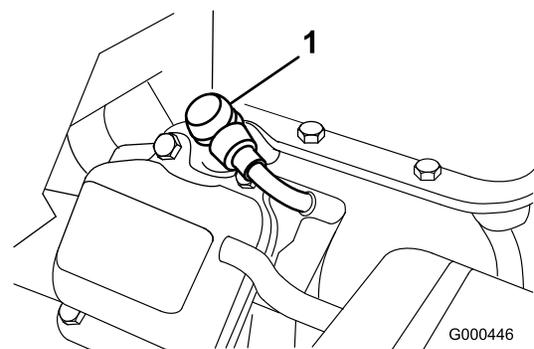

Figure 29
1. Pull molded wire off spark plug (Figure 29).